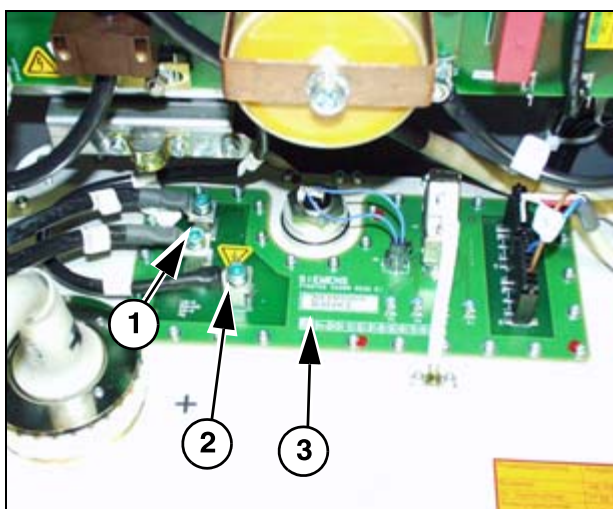

Fig. 12:
The D530 or D532 board (3/Fig. 12 / p. 20) is part of the high voltage transformer. The board designation depends on the generator. The board is not a replacement part and must remain installed.
- Ground wire connection ⊕ (2/Fig. 12 / p. 20).
- Reconnect the 2 power cables (1/Fig. 12 / p. 20).
- Connect the ground wire ⊕ (2/Fig. 12 / p. 20).